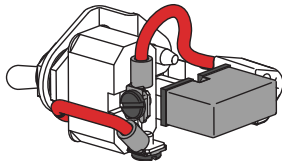

Figure 26
4. Unscrew both blade terminals and remove red pump wires from the back of the switch (see Figure 26).